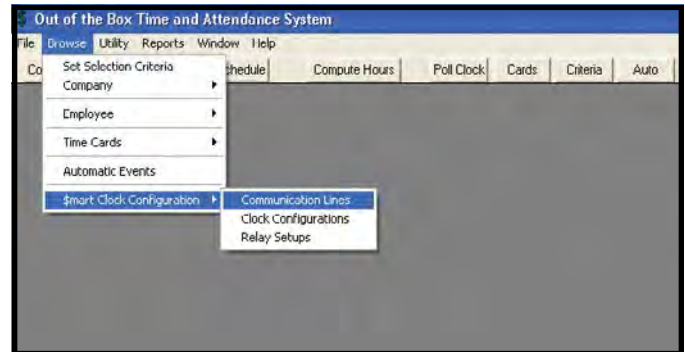

Figure 112. Out-of-the-Box™, Communication Lines
- II. Click “Browse” > “Smart Clock Configuration” > “Communication Lines” (see Figure 112).